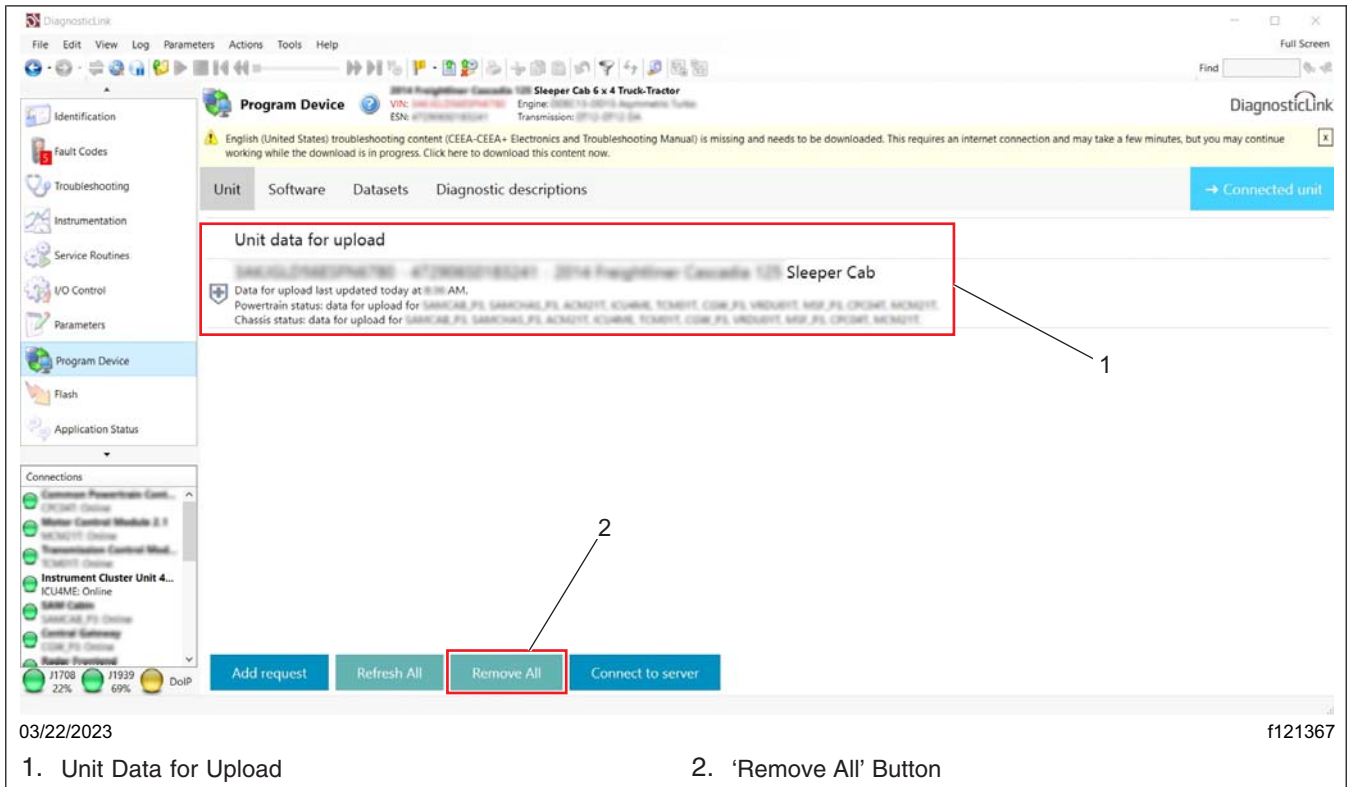

Fig. 9, Removing any Existing VINs
8.3 If there are any vehicle identification numbers (VINs) showing under 'Unit data for upload,' select 'Remove All.' See Fig. 9.